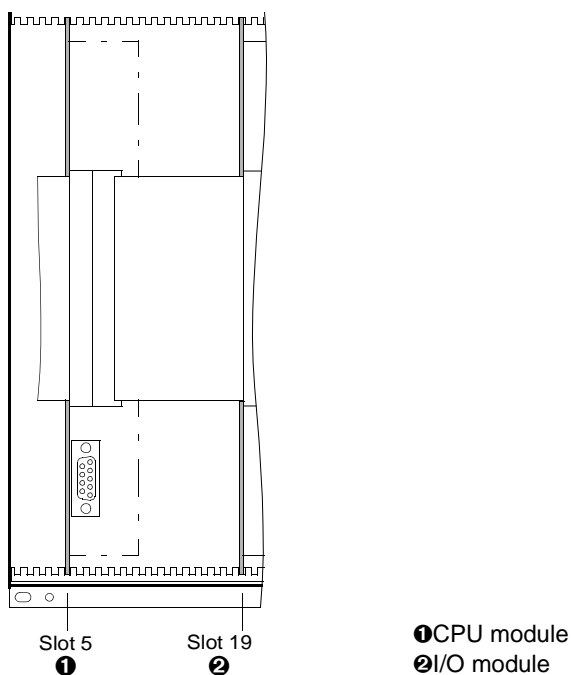

Figure 6 Front view after removal of the front cover (simplified and with minimized zoom)
- ❑ Release the connector of the ribbon cable between CPU module (Figure 6) and front cover at the front cover itself. To do so, press the locking clips situated top and bottom at the connector apart so that the connector of the ribbon cable is pushed out.
- Reinsert the CPU module into its slot (Fig. 6).